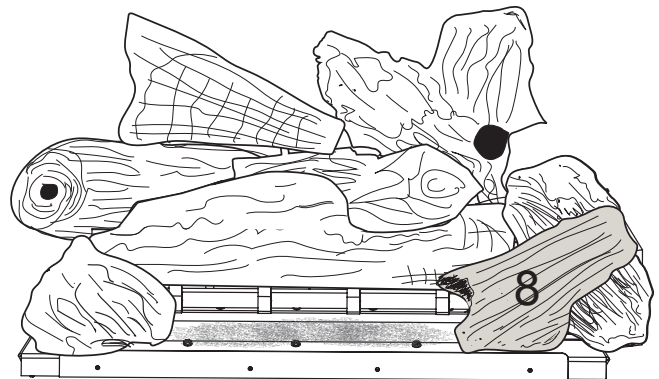

Figure 6.18 - Log #8 Log Placement
9. Hold log #8 with the wider end to the left. Place it against the first tine on the grate on the right and rest the pointed end over log #2. See Figure 6.18.